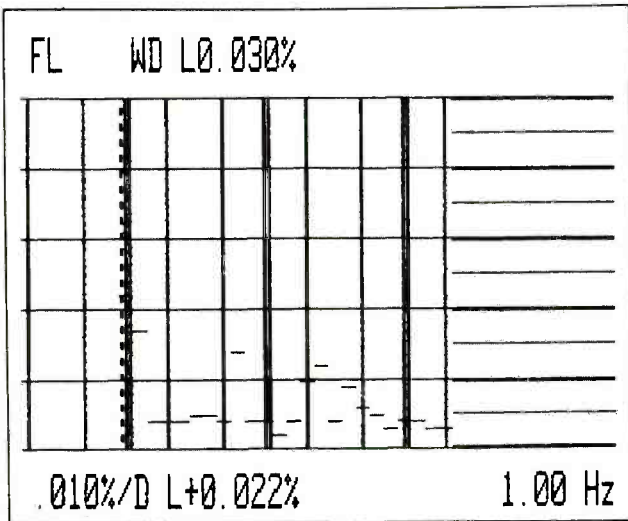

Fig. 10: Nikko ND-1000: Wow and flutter analysis.
WRMS wow-and-flutter is plotted over a frequency range from 0.5 Hz to 200 Hz in Fig. 10 and was an excellent 0.03% as opposed to the published figure of
0.05%. More often than not, the most offending wow component usually shows up at a frequency between 3 Hz and 5 Hz, but in the case of this deck, the greatest component of wow seemed to occur at 1 Hz, as shown in the plot of Fig. 10. That component contributed 0.022% of the total 0.03% shown.